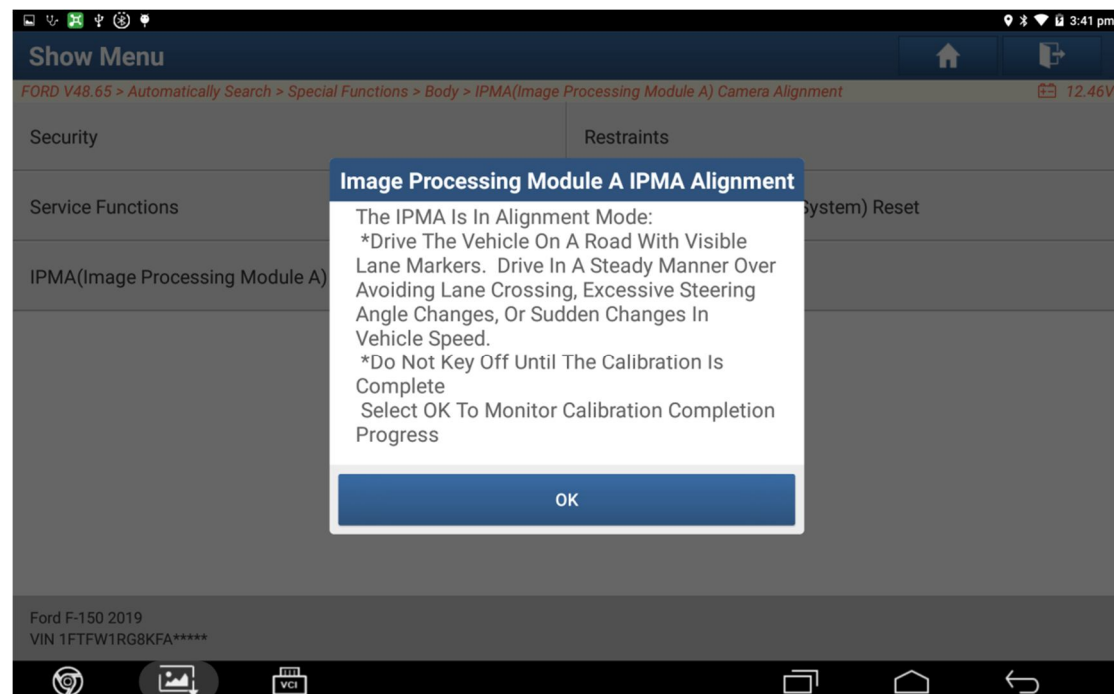

Figure 17
15. Prompt that the function is executed successfully and the vehicle is in camera alignment mode. (Figure 17).